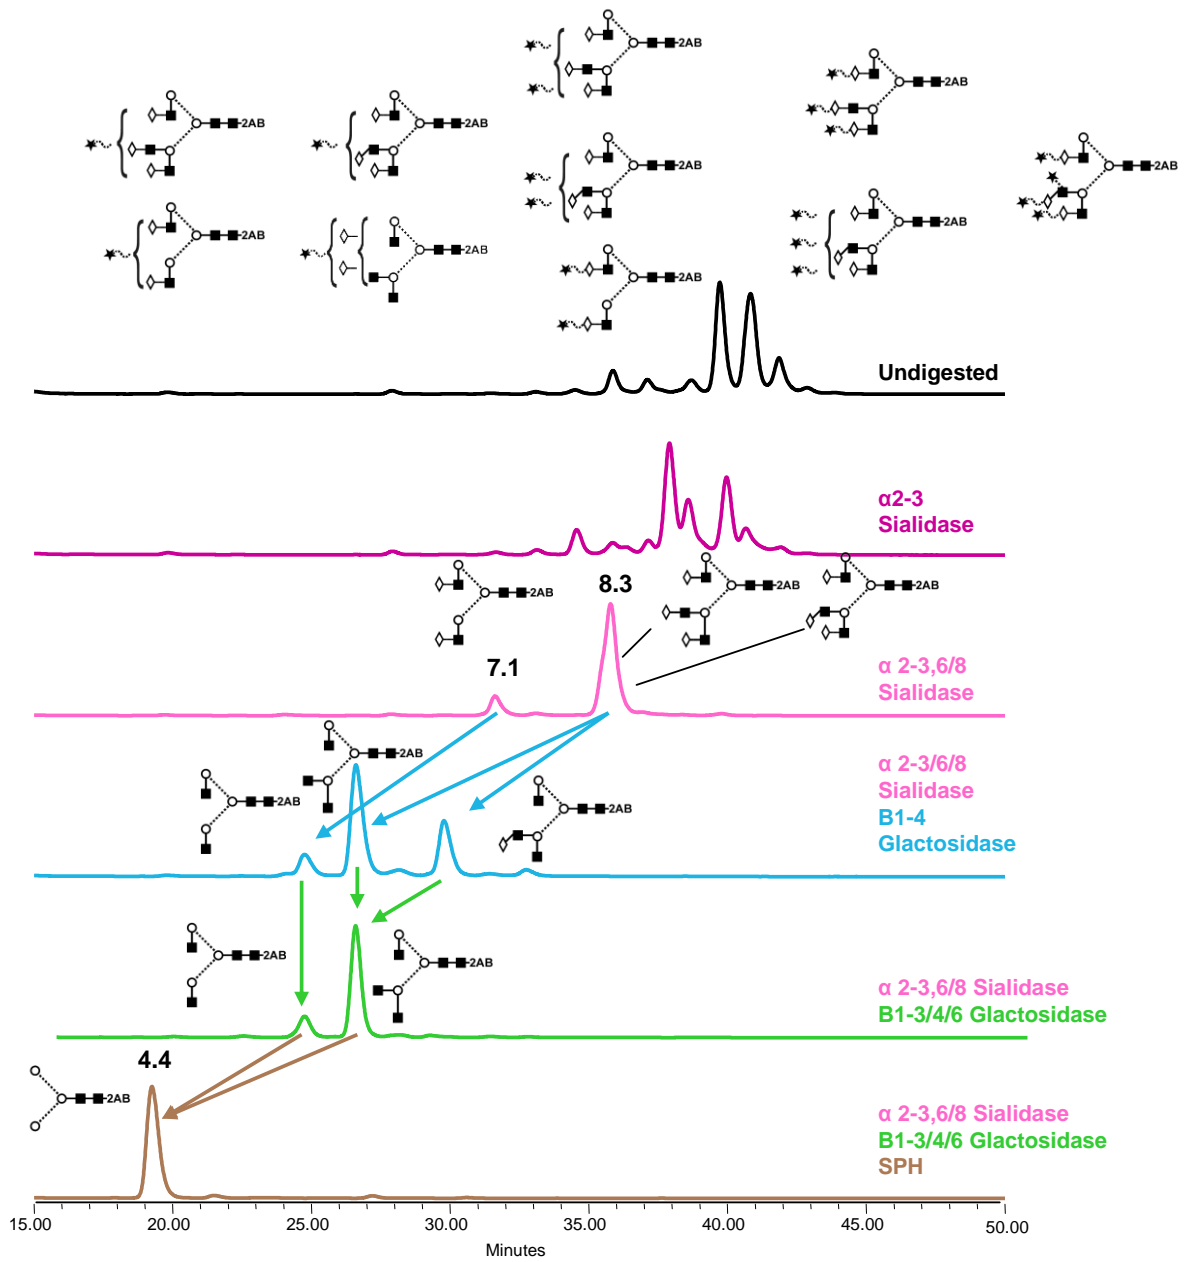

Figure 3: Example exoglycosidase analysis of bovine fetuin N-glycans from a similar batch of GCP-FET. LudgerSepN2 chromatograms are shown.
**Table 1: Summary of bovine fetuin N-glycans found in a similar batch of GCP-FET.** See the end of this document for details of the glycan nomenclature used. A ? symbol indicates the linkage type is unknown. Bgd? – non-glycan peak, GU – glucose units – a system of comparing glycans to a glucose homopolymer standard. Many common N-glycans have reported GU values. A combination of GU value, mass spectrometry and exoglycosidase digestion (Figure 3), can be used to unambiguously identify most N-glycans.